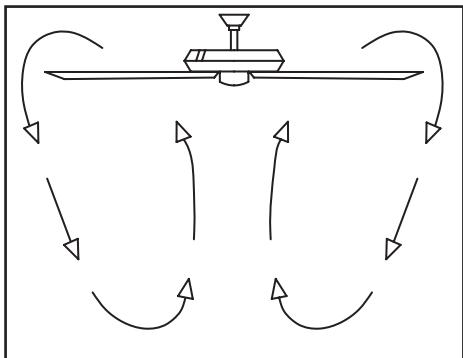

Figure 14
**Cool weather** - (Reverse) An upward air flow moves warm air off the ceiling area as shown in Figure 14. This allows you to set your heating unit on a lower setting without affecting your comfort.